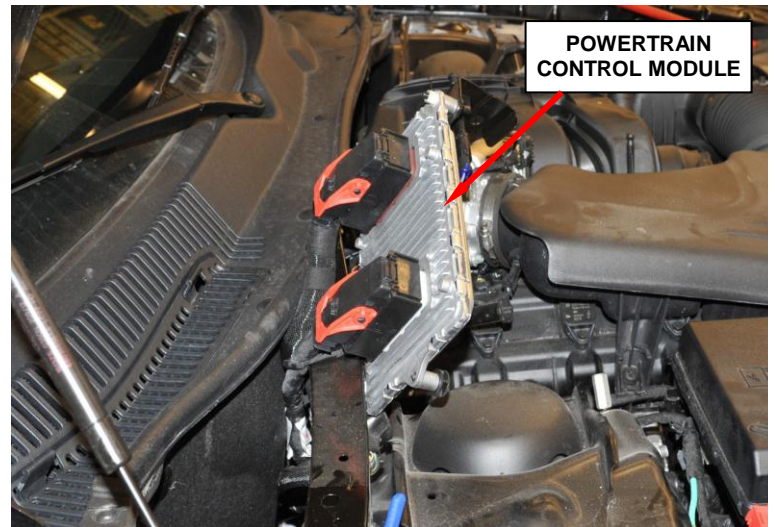

Figure 3 – Relocate the PCM
10. Pull the PCM up and out of the cowl and set aside (Figure 3).